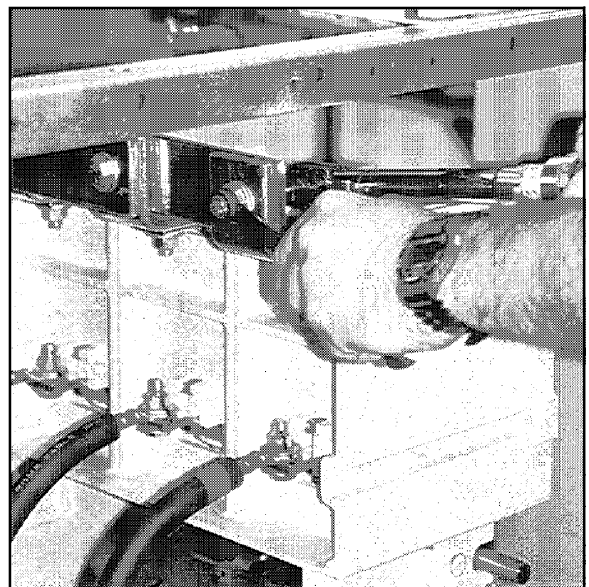

Fig. 40 Check Connections
- ☐ Check connections - Although the equipment and devices have been completely tested at the factory, a final field check should be made that all electrical wiring and bus bar connections are correct and have not become loose in transportation (Fig. 40). Refer to MAINTENANCE Section for electrical joint specification.